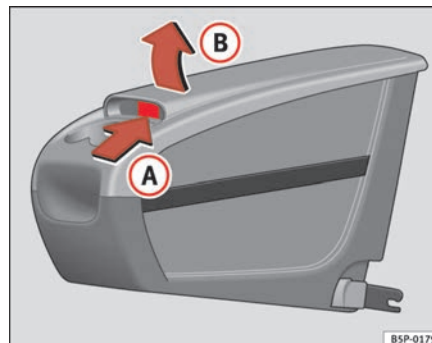

Fig. 113 Mobile stowage compartment Opening
- Lift the cover **(B)**, in area **(A)** ⇒ page 142, fig. 113.